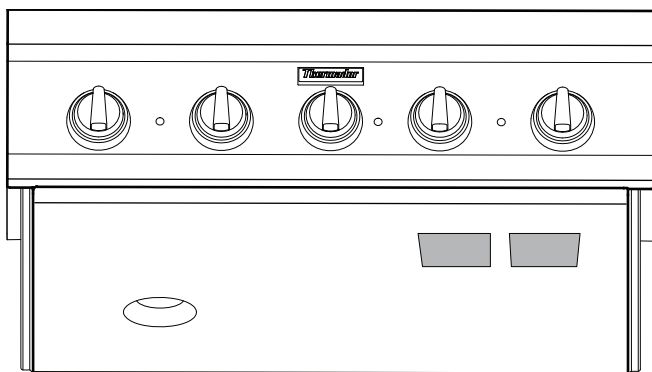

Figure 14: Data Rating Plate
- ___ Write the model number and serial numbers (see *Figure 14*) in the Use and Care Guide. Leave the USE AND CARE GUIDE and INSTALLATION INSTRUCTIONS with the owner of the appliance.